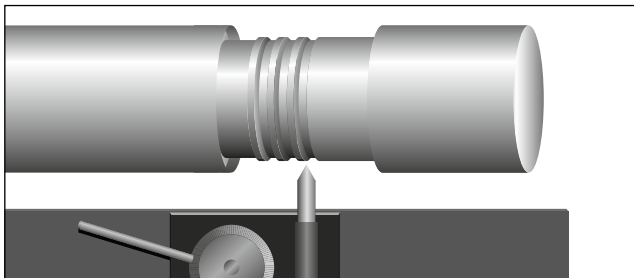

Figure 16. Roughen shaft for better adhesion.
2. FINISH UNDERCUTTING: Finish undercutting by machining a rough cut surface or gramophone pattern; the larger the shaft diameter, the deeper the threads. Degrease thoroughly. (See Figure 16)